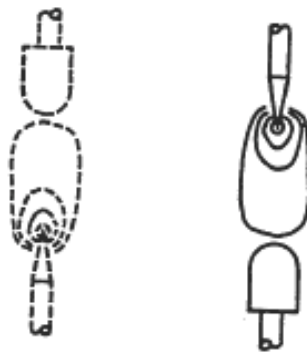

Figure 6: The electrodes viewed on a screen in front of the condenser
- c. Rotate the mirror knobs until a bright spot appears alongside the arc. (See Figure 6 on page 14.) This bright spot is a distorted image of the arc.